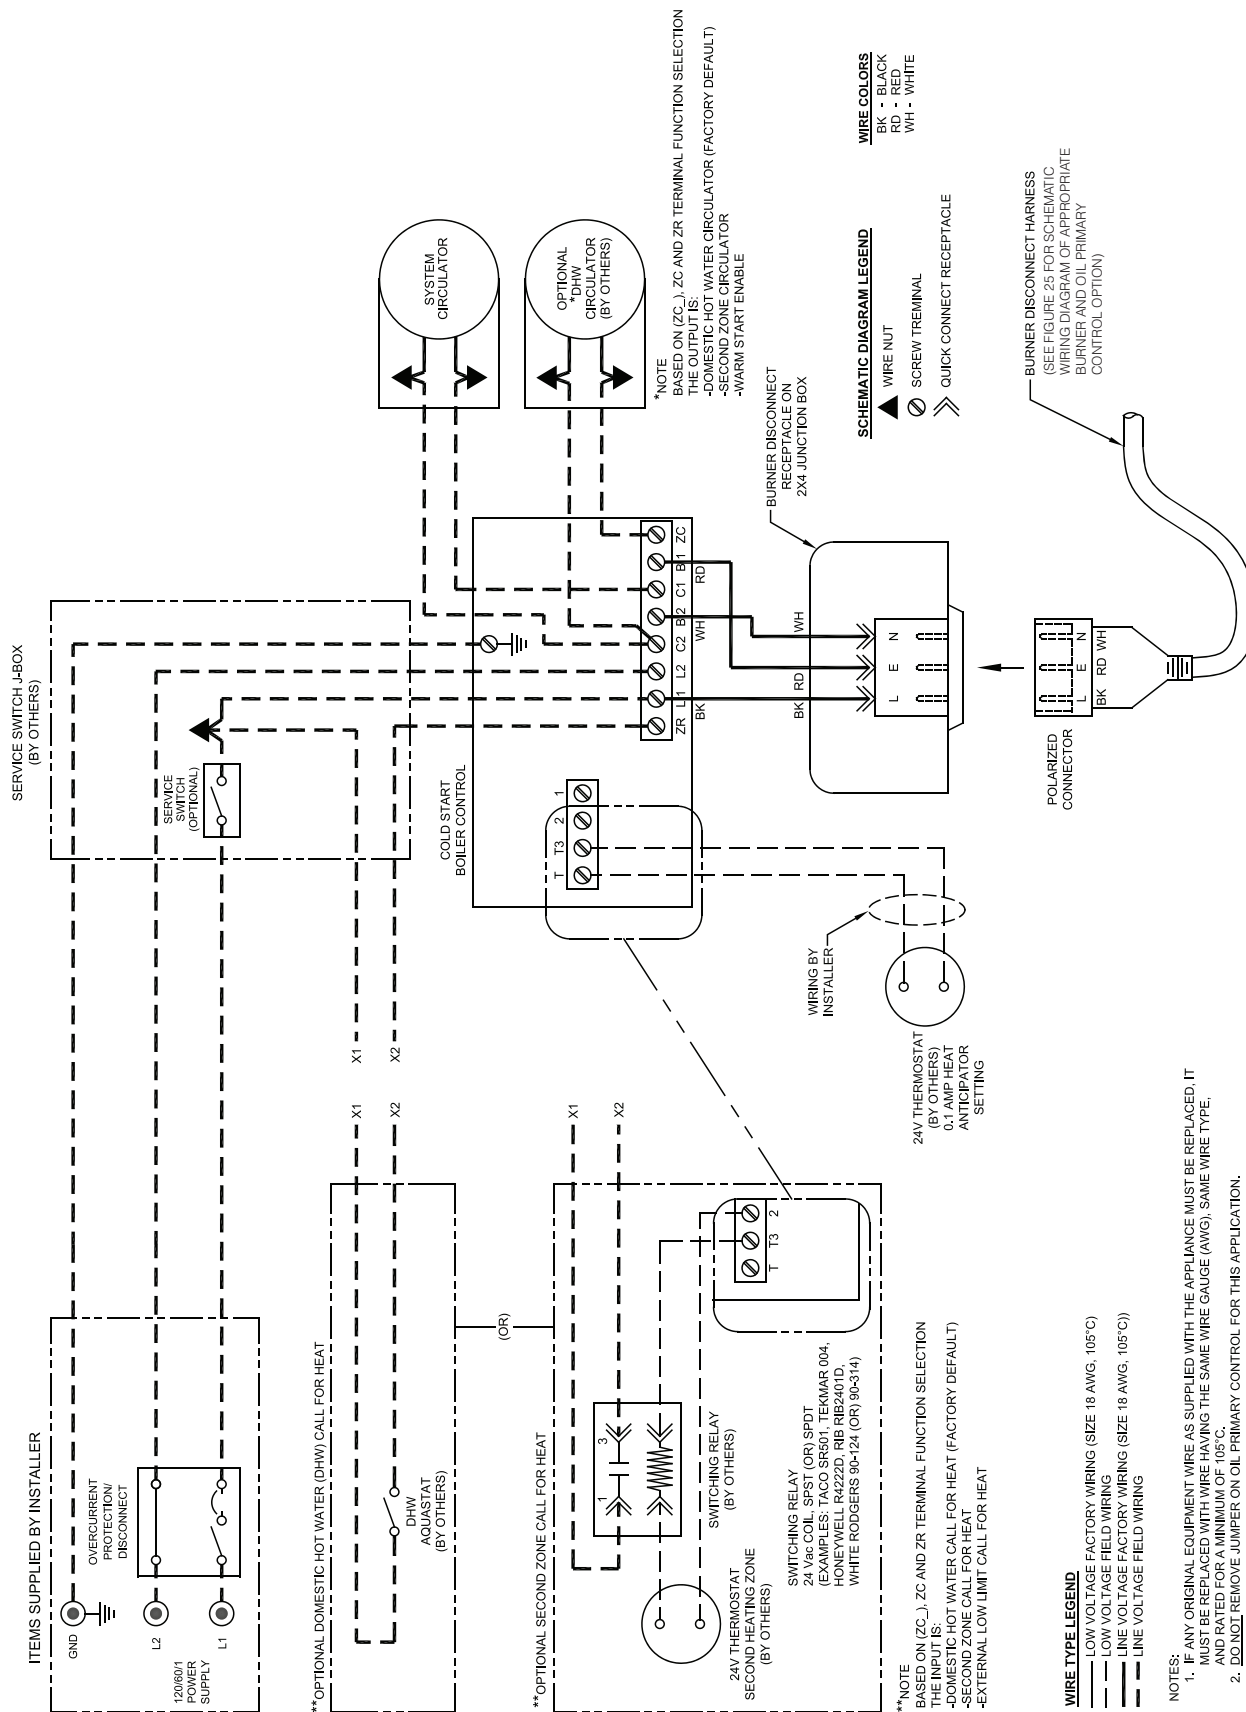

Figure 20A: Schematic Wiring Diagram, Water Boiler without Tankless Heater, Cold Start Control (All Burner Options)
5. Use armored cable (BX) over all exposed line voltage wiring.
7. Wiring should conform to Figures 20A through 21.
Heat Anticipator in Thermostat should be set to match the requirements of the control to which it is connected. See Figures 20A thru 21 for desired system and heat anticipator setting. If system tends to overheat above the thermostat's temperature setting, reduce heat anticipator settings by .1 or .2 amps. If system tends to short cycle without reaching desired room temperature, increase heat anticipator setting by .1 or .2 amps.